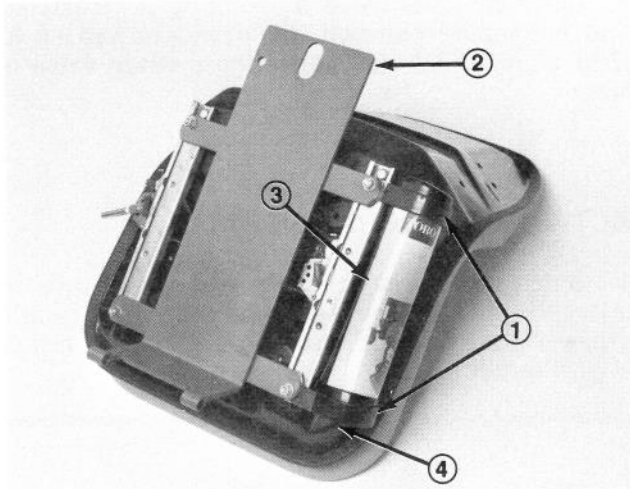

Figure 7
- Mount seat support to threaded studs on seat slide channel and secure in place with lockwashers and nuts (Fig. 7).
- Loosely secure (2) R-clamps to right side of seat bottom with (2) capscrews supplied in kit (Fig. 7). Install manual tube into R-clamps and tighten capscrews.